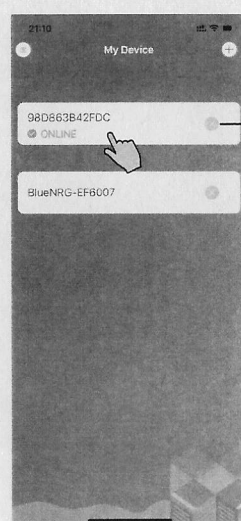

Fig. 17 Device management interface
6. After WIFI and DTU bonding is done, and jump back to My Device(Fig. 17).